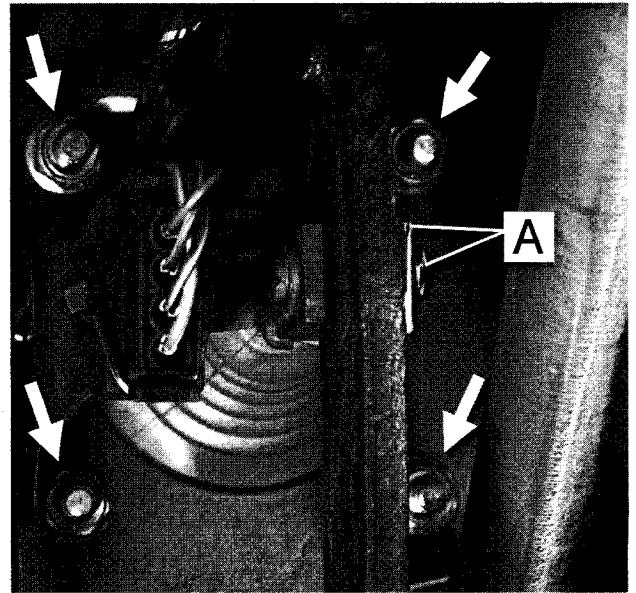

Fig. 13. Brake pedal clevis pin and retaining clip (A). Brake booster mounting nuts shown at arrows.
- Remove clip and clevis pin from brake booster pushrod and disconnect it from brake pedal. Remove brake booster mounting nuts. See Fig. 13.